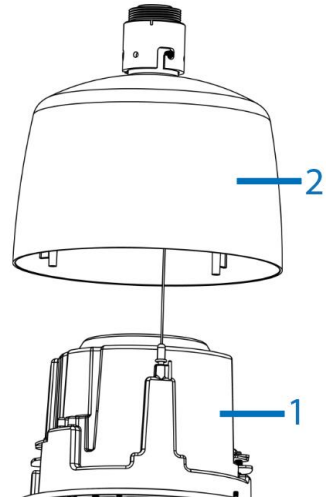

Figure 8
- Place the camera housing (1) (Figure 8) up into the pendant mount (2) (Figure 8) and pull the power cables through the hole in the camera housing.